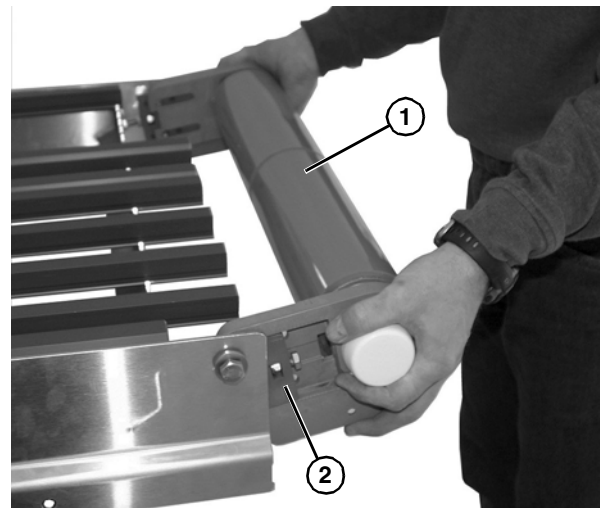

Figure 62
3. Slide the idler spindle assembly (Figure 62, item 1) off the pivot tail blocks (Figure 62, item 2).